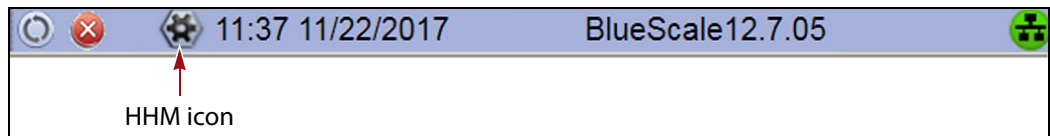

Figure 225 The HHM icon is located on the status bar.
3. Click the HHM icon on the status bar (see Figure 225 on page 373). The Hardware Health Monitoring screen displays.